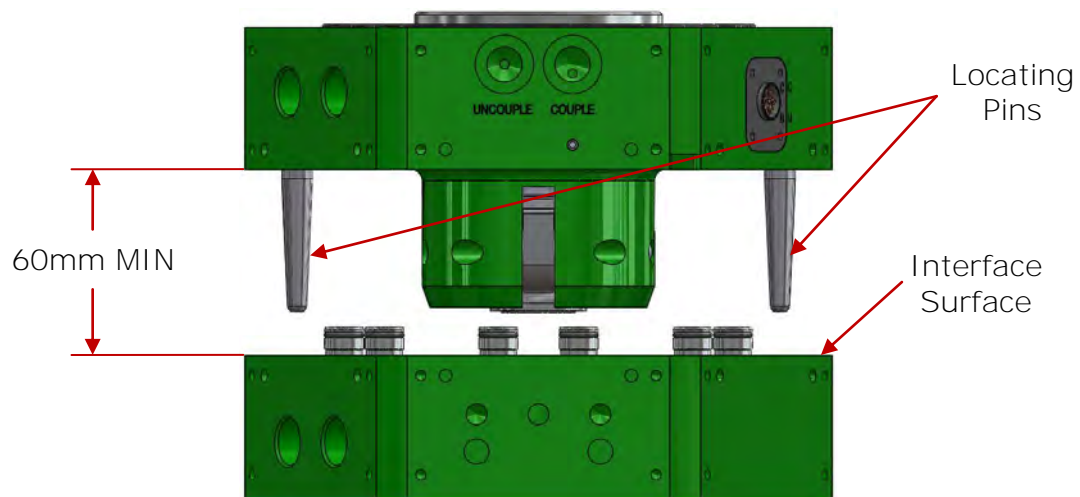

Figure 6.2-1. E125LP Tool Changer – Docking Orientation
1. Orient the Robot Adaptor and Tool Adaptor so that the centerline axes are aligned and the interface surfaces are parallel. Maintain approximately 60mm minimum separation between the Robot Adaptor and Tool Adaptor interface surfaces (Figure 6.2-1).